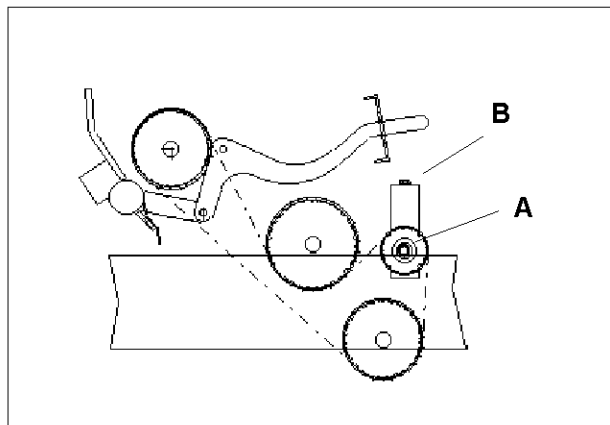

Fig. 82
Loosen sprocket (fig. 82/A) and tighten by means of screw (B).